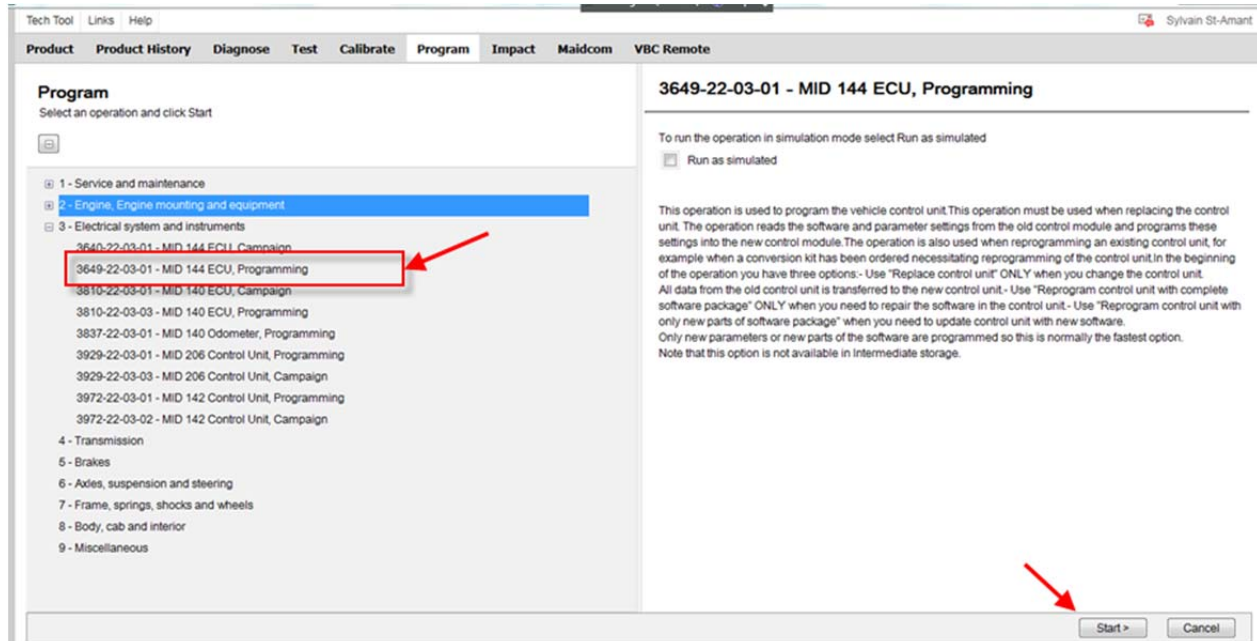

FIGURE 19
1. In Premium TechTool, select PROGRAM tab. In PROGRAM tab, select operation 3649-22-03-01 – MID 144 ECU, Programming then click START (FIGURE 19).